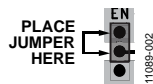

Figure 3. Enabled Jumper Position
- Use a jumper to connect the top two pins of the EN test bus. This connects EN to VIN and enables the converter (see Figure 3).